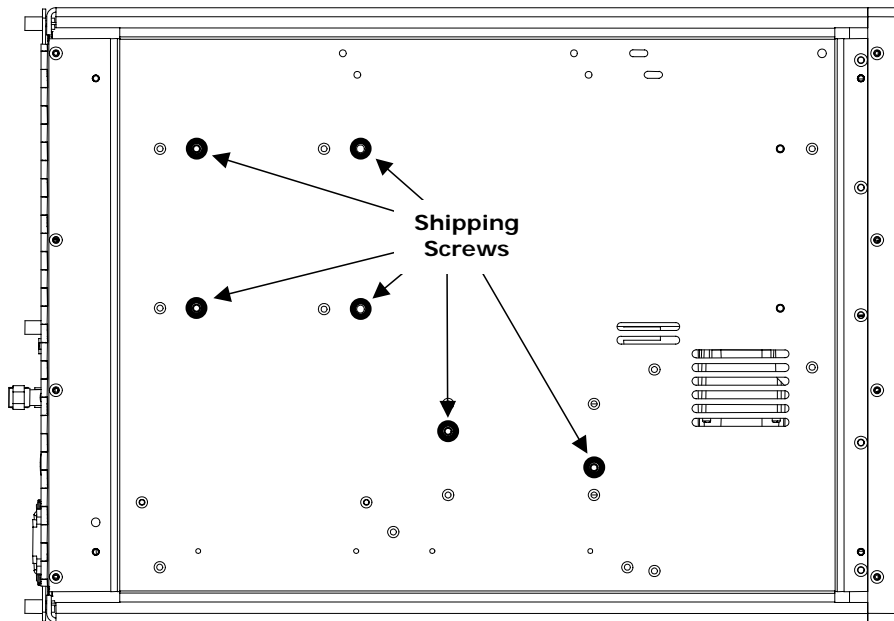

Figure 3-1: Removal of Shipping Screws
7. Once you have determined that no shipping damage exists, and the unit includes all expected hardware options, remove all red colored shipping screws from the bottom of the chassis as shown in Figure 3-1.